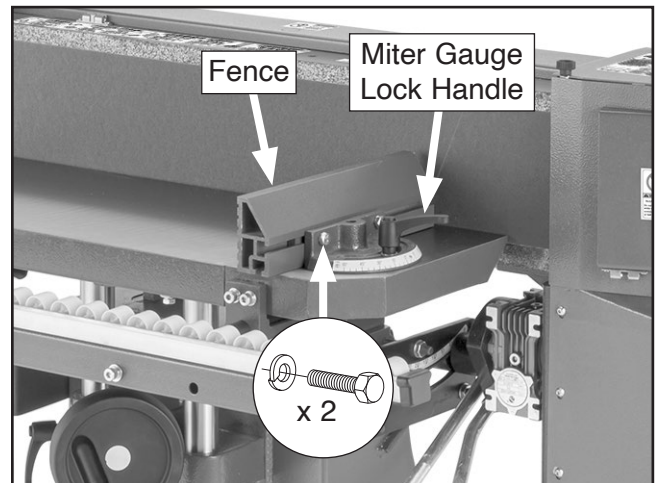

Figure 52. Main table miter stop.
The main table has a miter stop that adjusts between 0°–60° and has an adjustable fence (see **Figure 52**) for supporting the workpiece against the platen when it is perpendicular to the table.
2. Loosen miter gauge lock handle and (2) fence hex bolts (see **Figure 52**).
4. Adjust fence until there is a gap of no more than 1/16" between fence and sanding belt (see **Figure 52**), then tighten fence hex bolts.